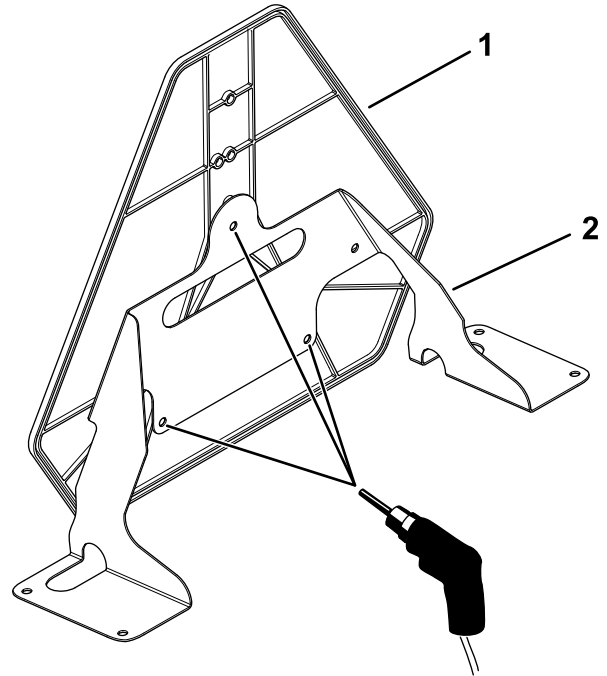

Figure 26
- Using the marker mount as the template, drill 3 holes (5/16 inch) into the slow-moving vehicle sign (Figure 26).